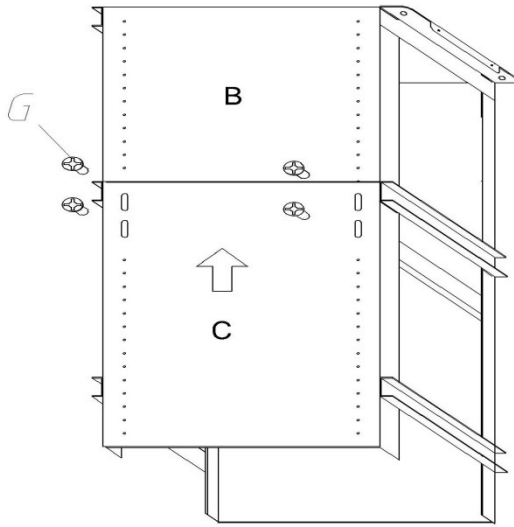
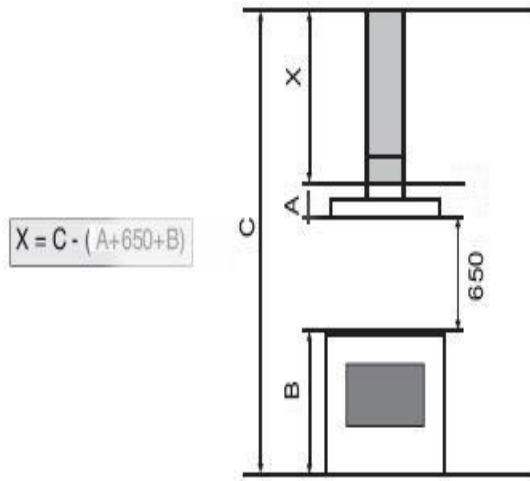

Fig.4
Fig.5
- Adjust the height (Fig.5) by referring to the amounts indicated in and block it using the 8 unit screws **G** that are supplied (Fig.4)